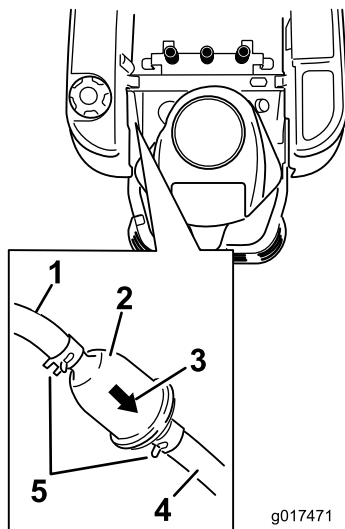

Figure 45
3. Locate the fuel filter on the side of the engine as shown in Figure 45.
4. Squeeze the ends of the hose clamps together and slide them away from the filter (Figure 45).
6. Install a new filter with the flow direction arrow coming from the fuel tank and pointing to the engine. Move the hose clamps close to the filter (Figure 45) to secure it in place.